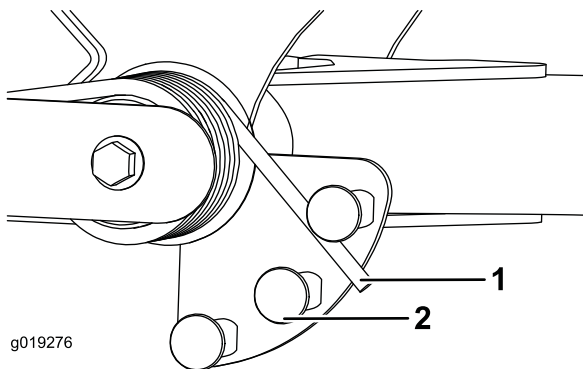

Figure 40
2. Insert a tube or similar object onto the long spring end and pivot it around the spring actuator to the desired position (Figure 40).